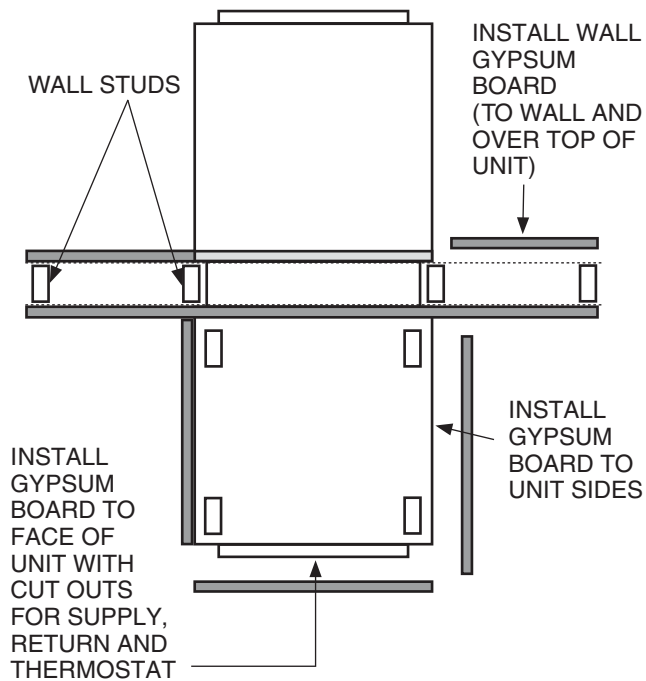

Fig. 14 — 42SJ Unit Installation
- e. Assemble the specified wall construction up to and over the top of the fan coil unit (see Fig. 14).
- f. With the fire-wall separation being complete, the drywall skin on the surface of the individual fan coils can be applied. Drywall can be applied directly to the surface, or, if necessary, studding may be installed on the corners for vertical control (see Fig. 14).
- g. For ease of installation of the access panel, apply drywall on the return-air side directly to the surface of the unit (see Fig. 14). When applying the wall board directly to the unit cabinet, it may be necessary to shim the wall board in some areas to achieve the desired finished wall surface.